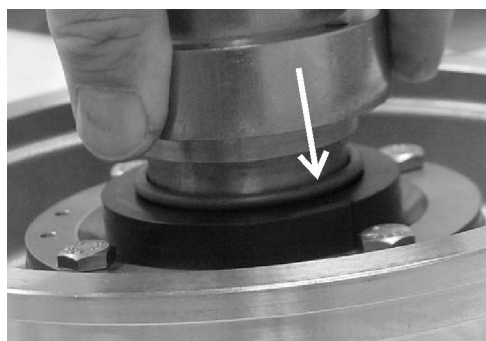

Figure 30 - Installing O-ring
3. Lubricate and slide the seal O-ring onto the impeller shaft. Use the spring retainer as a tool to push the O-ring into the rotary seal (Figure 30).